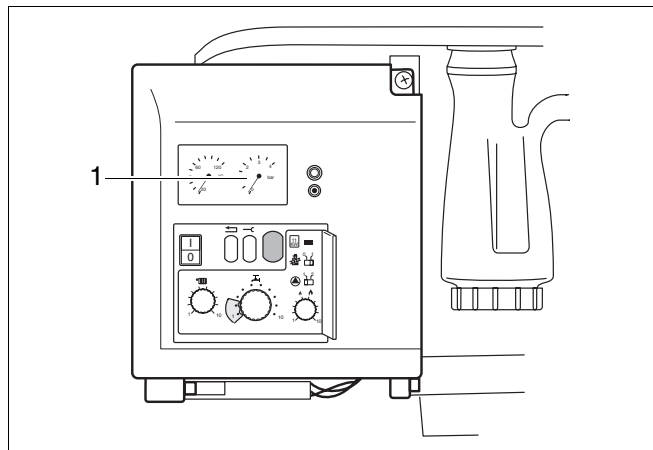

Fig. 28 Pressure display
- Fill the system to a pressure of 1.0 to 1.2 bar (fig. 28, item 1). Max. water pressure is 1.5 bar.